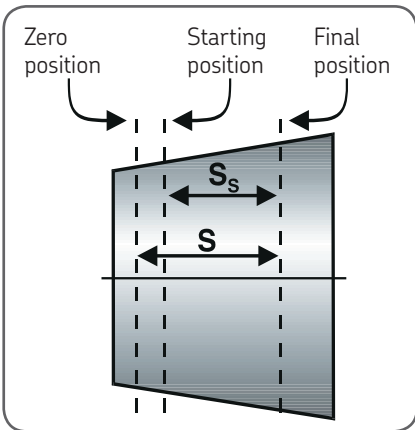

Figure 14. Bearing position
Drive the bearing up to the starting position by applying the correct hydraulic pressure to the HMV(C) E nut. See figure 14.